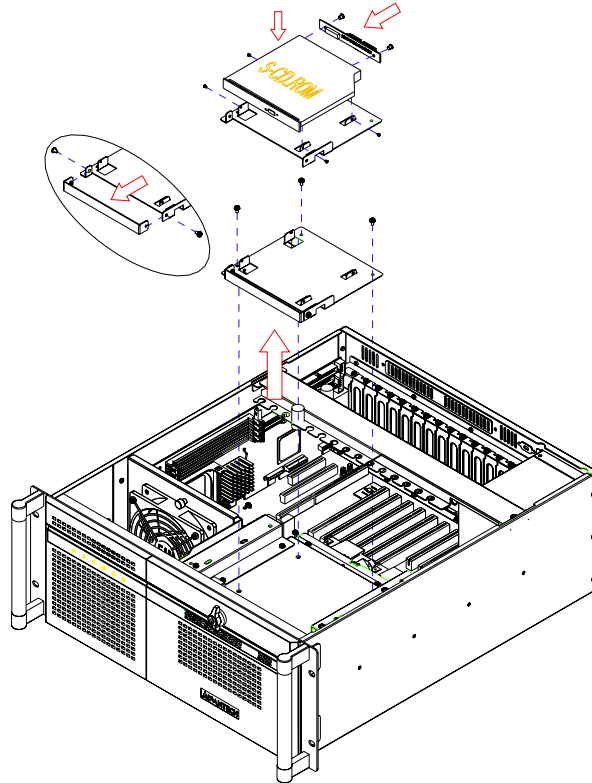

Figure 2.9 Installing the slim-type optical disk drive
5. Undo the screws on the slim-type optical disk drive bracket and its front cover. Then fix the optical disk drive to the bracket with the four screws provided. (see Figure 2.9)